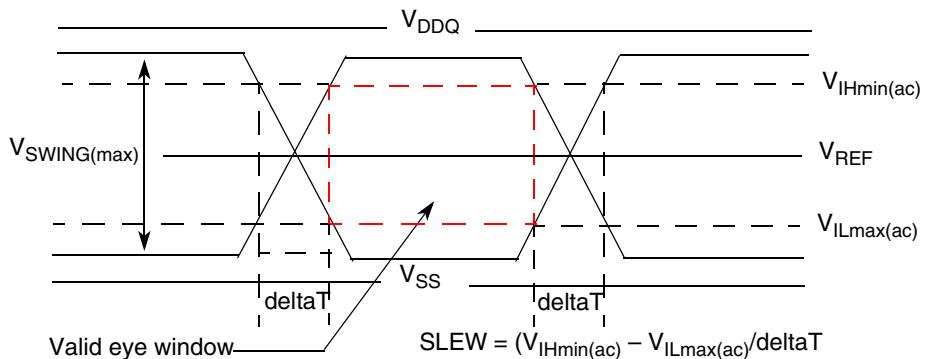

Figure 3. SSTL Signal Waveform Eye Diagram
- Optimize termination values. During board simulation, verify that all aspects of the signal eye (see Figure 3) are satisfied, which includes at a minimum the following: